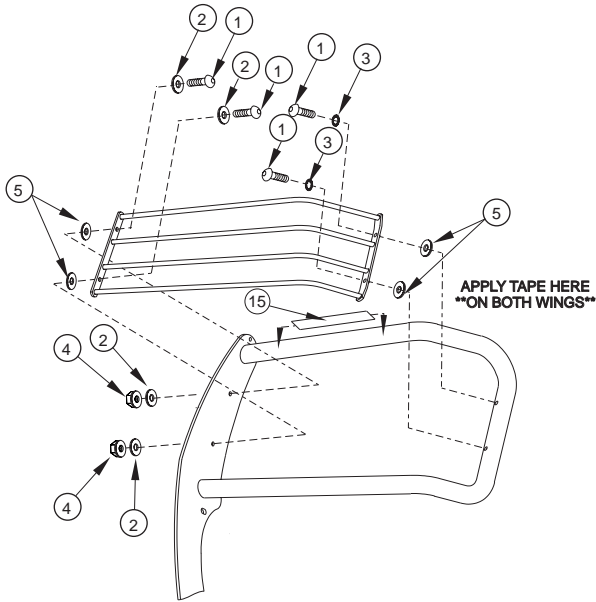

FIGURE 2
- STEP 3. Loosen front bumper bolts approximately 3/8" while pushing bumper toward vehicle to help prevent retaining clips from rotating beneath the bumper. Attach bottom brackets as shown. Leave bracket loose enough for adjustment. **SEE FIGURE 2.**
- STEP 6. Place Sportsman assembly up against truck and align with the bottom mount brackets. Attach Sportsman with 1/2" fasteners. Leave loose. **SEE FIGURE 2.**